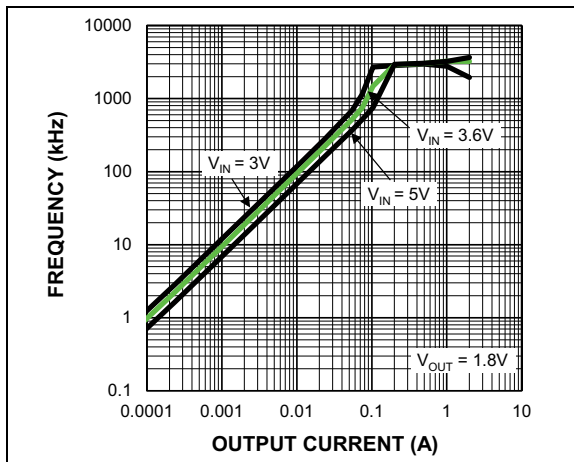

FIGURE 5-3: Switching Frequency vs. Output Current.
As shown in that equation, the load at which the MIC23451 transitions from HyperLight Load mode to PWM mode is a function of the input voltage (V_{IN}), output voltage (V_{OUT}), duty cycle (D), inductance (L), and frequency (f). Figure 5-3 shows that as the output current increases, the switching frequency also increases until the MIC23451 goes from HyperLight Load mode to PWM mode at approximately 120 mA. The MIC23451 will switch at a relatively constant frequency around 3 MHz after the output current is over 120 mA.